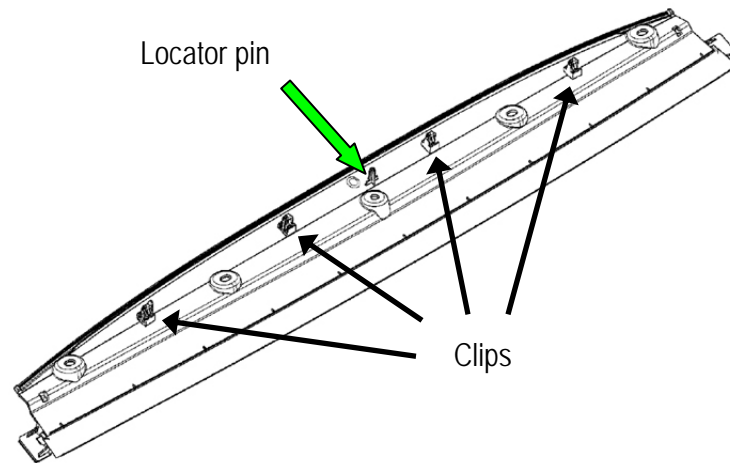

Figure 23
26. Cut four 10 mm x 50 mm pieces from the 1 mm sheet, and then apply one to each clip where shown in Figure 23 and 24.